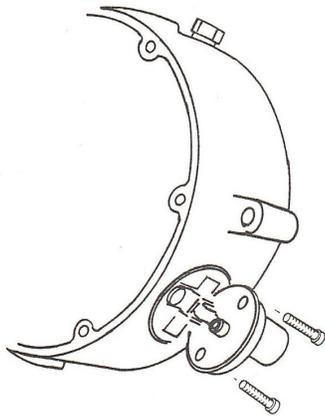

Figure 39. Disassembly
- (1) Remove primer and front cover.
- (2) Remove secondary diaphragm, support plate, gasket, and secondary valve lever assembly.
- (3) Remove two screws holding inlet assembly and slide assembly from opening in side of primary body (Figure 39).